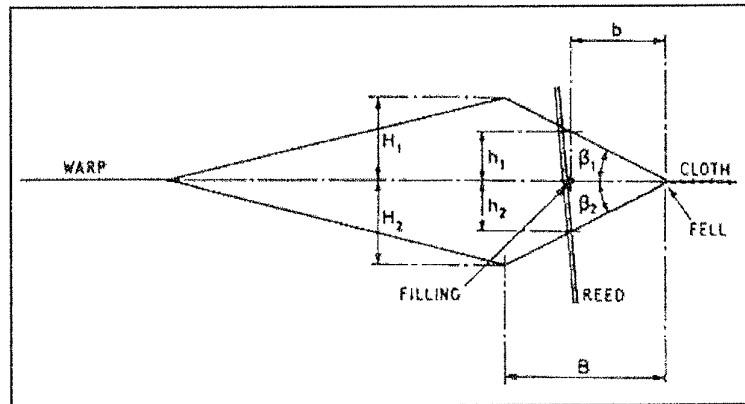

Figure 02.
- (c) In a weaving machine with a symmetric shed, the distance between the heald frame and the fell of the cloth (B) is 50 cm. The angle of inclination for both the top shed and bottom shed (β) is 8° , ensuring equal shed opening. Distance from the reed to the cloth fell (b) is 4 cm. The system follows symmetric conditions (Figure 02), where: (05 marks)